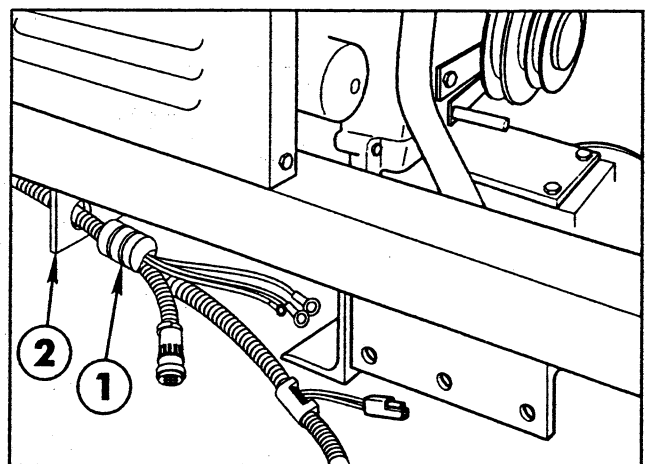

FIG. 6
1. Route the single plug and approximately five (5) feet of Wiring Harness (in front of the 3 inch branch of Harness) through the hole in the Vehicle's cross member as shown in FIG. 6. Route the Harness forward and up over the leaf springs and through the hole in the floor board to the inside of the Steering Console.